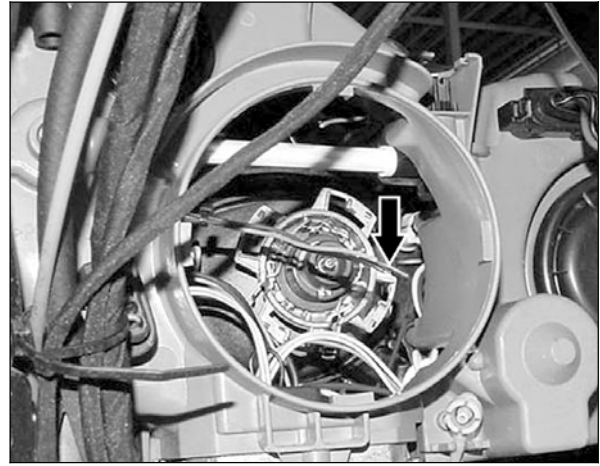

Figure 10
- 8.7 Individually cut off the 3 supply lines (red, black and green) as close to the ignition module as possible (Figure 10). This shuts down the ignition module at the headlamp.